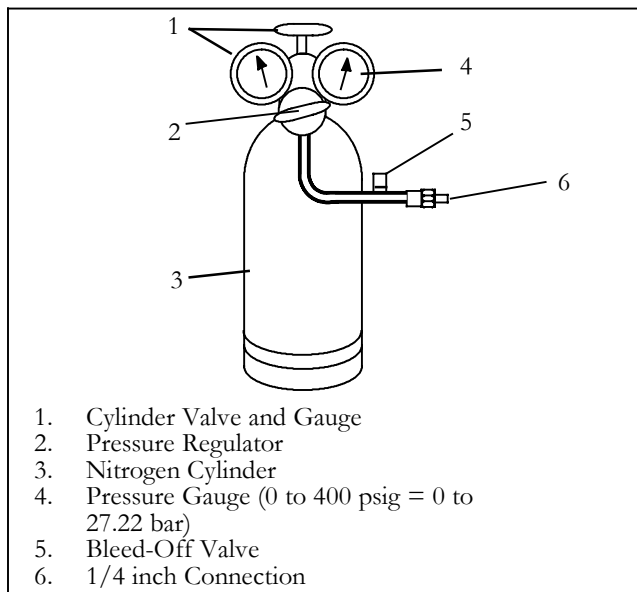

Figure 4-7. Checking High Pressure Switch
- b. Connect switch to a cylinder of dry nitrogen. (See Figure 4-7.)